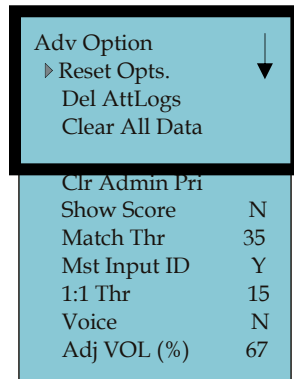

Figure 2-99 Adv Option Menu
2. Press **OK** to display the Adv Option menu (see **Figure 2-99**). Press the “▲/▼” buttons to scroll up or down to select the desired option.